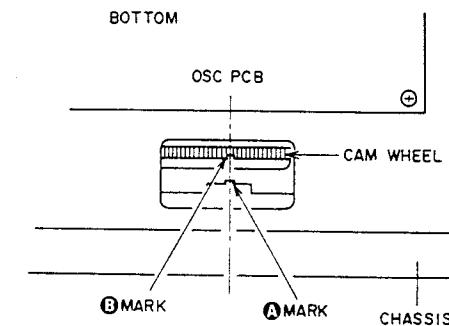

Fig. 4-2
- b. Adjust VR1 slightly so that the center of marker (B) coincides with the center of marker (A) in the STOP mode as shown on Fig. 4-2. (The marker (B) on the CAM WHEEL can be seen clearly by lighting it from the back.)